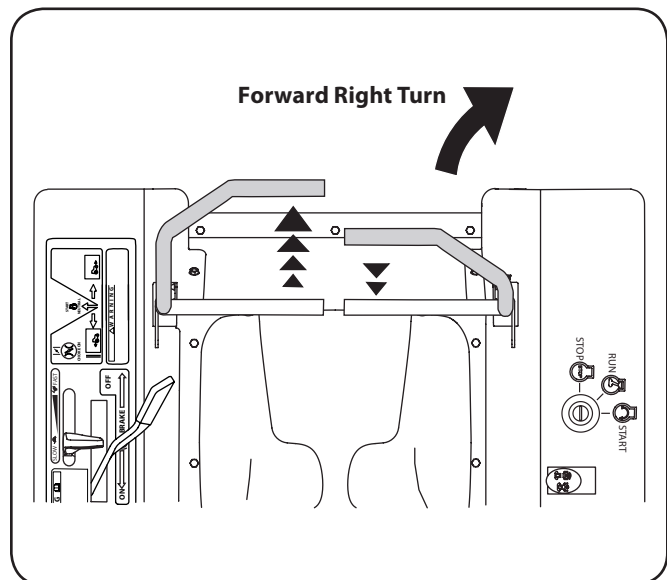

Figure 1-4
2. To turn to the right, move the right drive control lever rearward of the left lever. See Figure 1-4.